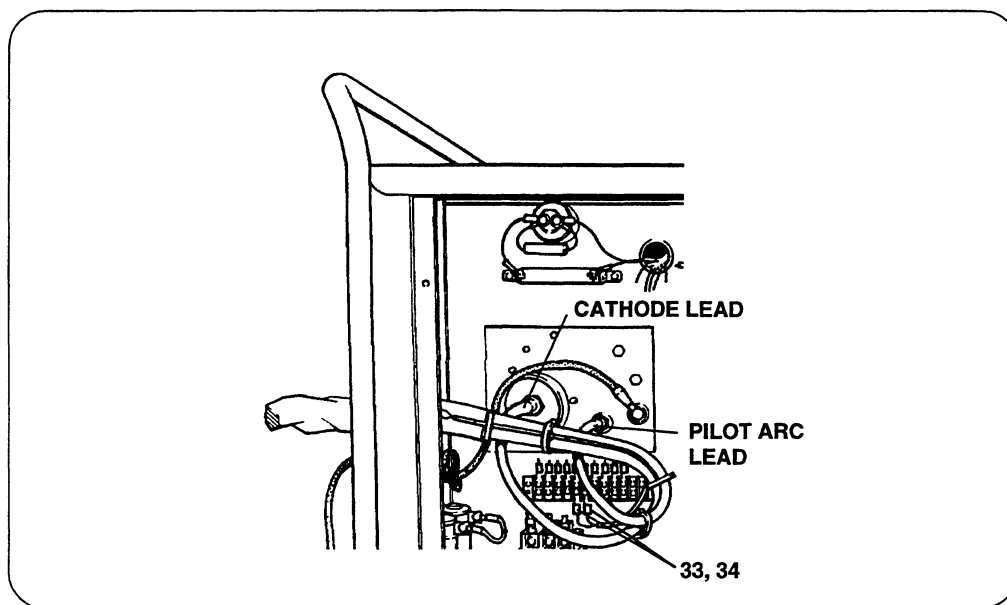

Figure 3-7 Torch Lead Connections to Inside of Power Supply
2. Connect the torch **CATHODE LEAD** (larger diameter lead) to the center of the coil assembly. (Fig. 3-7)
3. Connect the **PILOT ARC LEAD** (smaller diameter lead) to the other fitting located on the lower left of the ground cable connection. (Fig. 3-7)
4. Connect the cable terminals labeled **33** and **34** to TB1-5 and TB1-6. (Fig. 3-7)